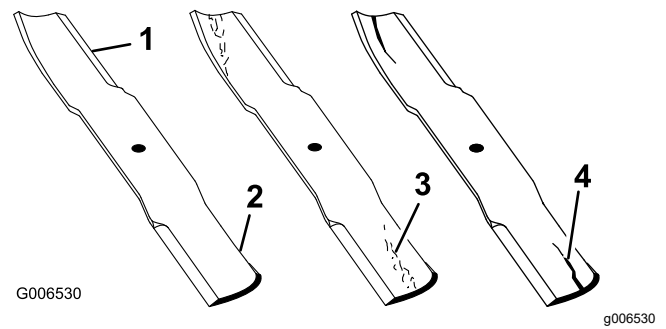

Figure 14
1. Inspect the cutting edges (Figure 14).
4. If you notice any cracks, wear, or a slot forming in this area, immediately install a new blade (Figure 14).